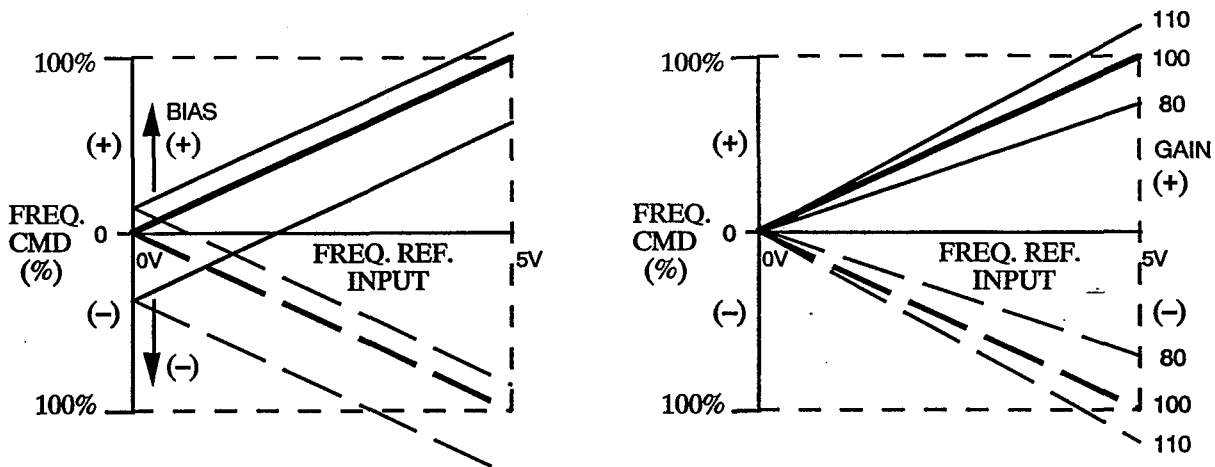

Figure 5. Frequency Command Gain and Bias for 3-15 PSI Sensor
13. Adjustments. There are no adjustments to be made on the Sensor PCB; however, bn-05 and bn-06 must be programmed to achieve the proper auto speed reference signal from the 3-15 PSI pneumatic input. See Table 1 and Figures 5, and the flowchart of Sheet 5.